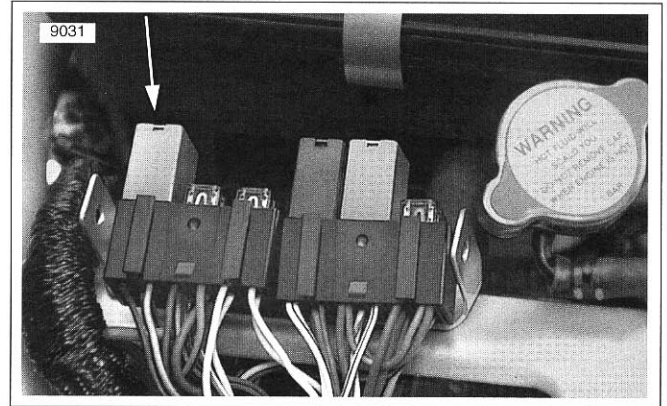

Figure 5-5. Starter Relay (fuse block cover removed)
6. See Figure 5-5. Locate fuse block behind air cleaner. Pull fuse blocks from tabs on mounting bracket. Tabs on bracket fit into slots on each side of fuse block cover. To remove cover, raise latches slightly to disengage tabs on fuse blocks.